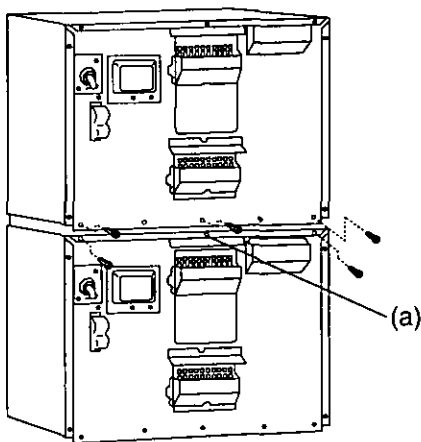

Fig. 1
1. Stack the units and remove the five screws as shown in Fig.1.